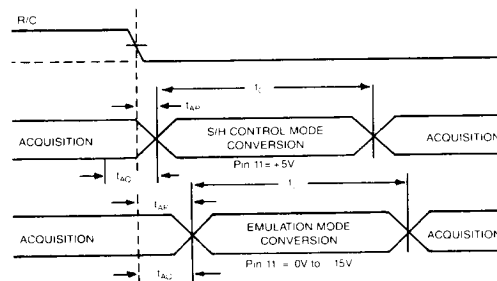

Figure 3. Signal Acquisition and Conversion Timing
**S/H CONTROL MODE AND NON-SAMPLING 574 EMULATION MODE** — Figure 3 and Table 5 show the basic differences between the two operating modes. In both modes, the acquisition time is 4  $\mu$ sec typ. In the Control mode, during the 4  $\mu$ sec acquisition time, the input signal may not slew faster than the inherent slew rate of the ADS574. After the Convert command arrives, any changes in the input signal level have no effect on the conversion, as the input signal is already sampled and the conversion process begins immediately.